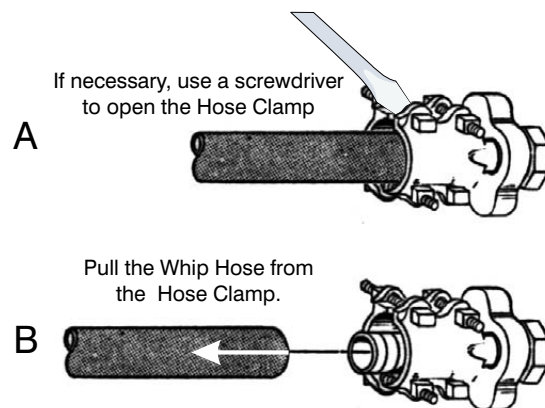

Figure 11-4. Remove Hose from Coupling
3. Separate the two halves of the clamp as shown in Figure 11-4.
4. It may be necessary to pry the two clamp halves apart. Use a knife blade or a flat blade screwdriver to separate the two clamp halves as shown in Figure 11-4-A.
5. Once the clamp is loose, pull the hose from the hose plug of the Hose Coupling as shown in Figure 11-4-B.